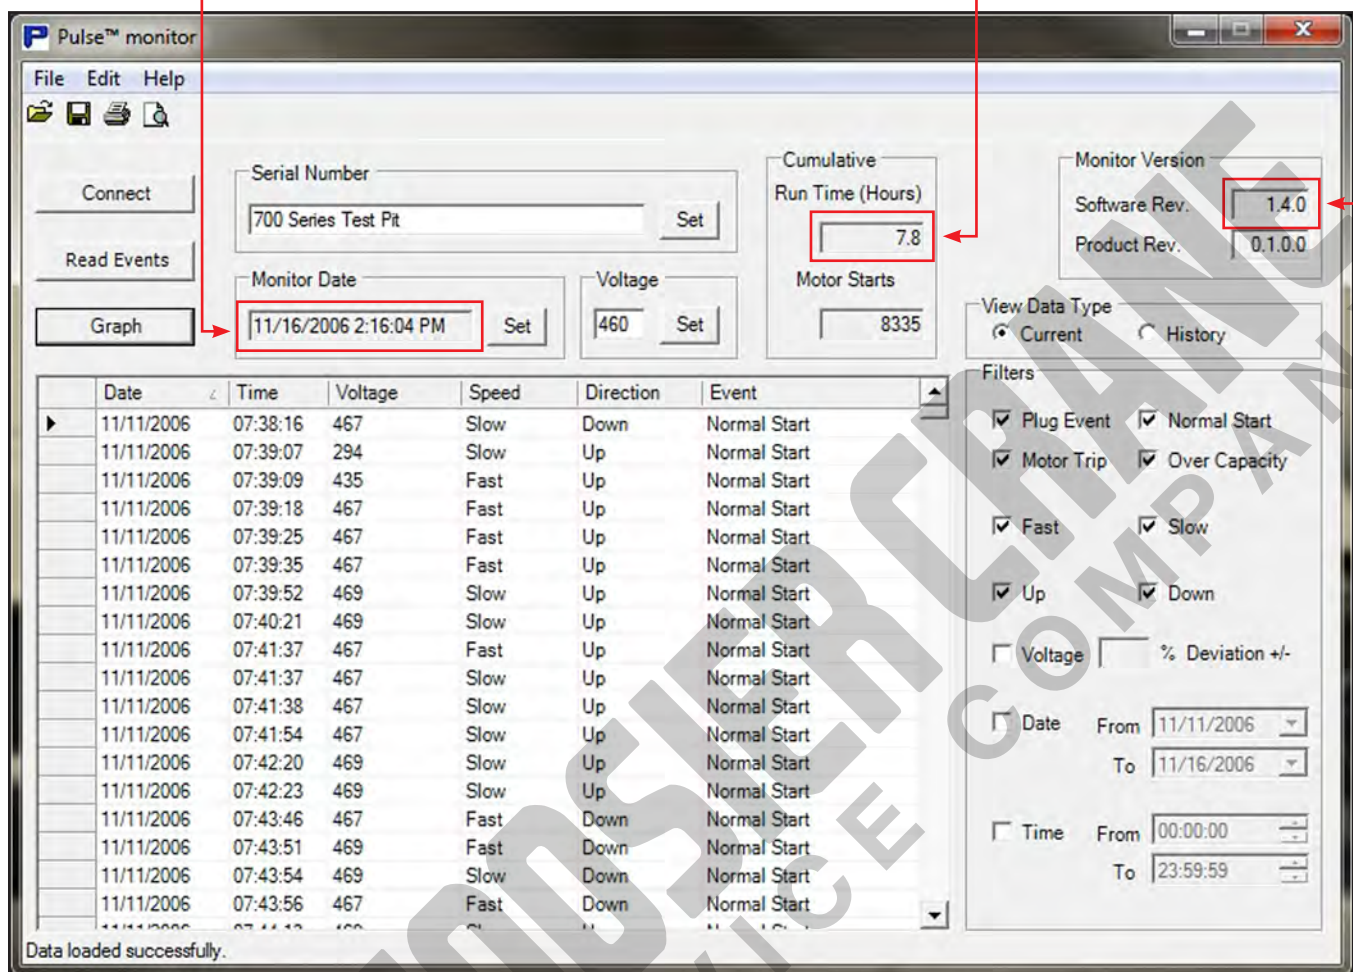

FIGURE 5
- d. If your connection was successful, the following message **Data loaded successfully** will be displayed in the lower left corner. The monitor date, monitor version and cumulative run time / start data will also appear. See Figure 5.